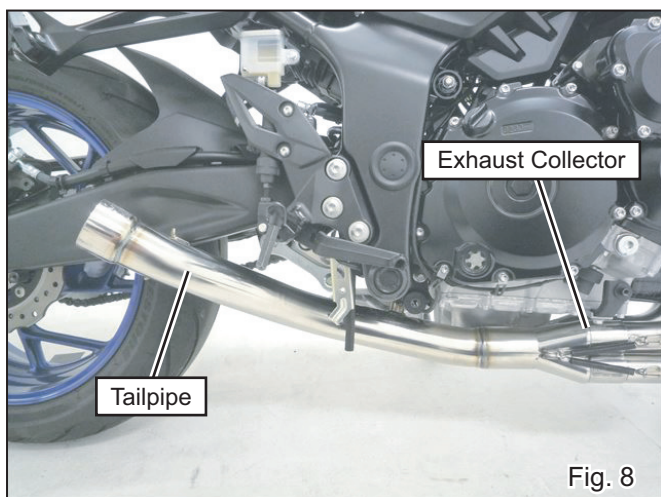

Fig. 8
- 9) Insert Tailpipe to Exhaust Collector and install Exhaust Spring. (See Fig. 8)